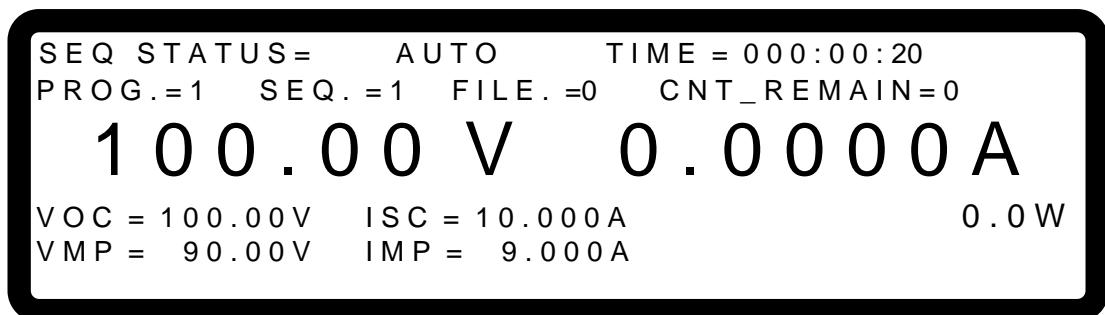

Figure 4-31
2. Press “**ON/OFF**” again to start the program. The screen will go to the IV-MAIN PAGE as shown in Figure 4-31. To abort the execution, press “**EXIT**” to return to the MAIN PAGE menu.